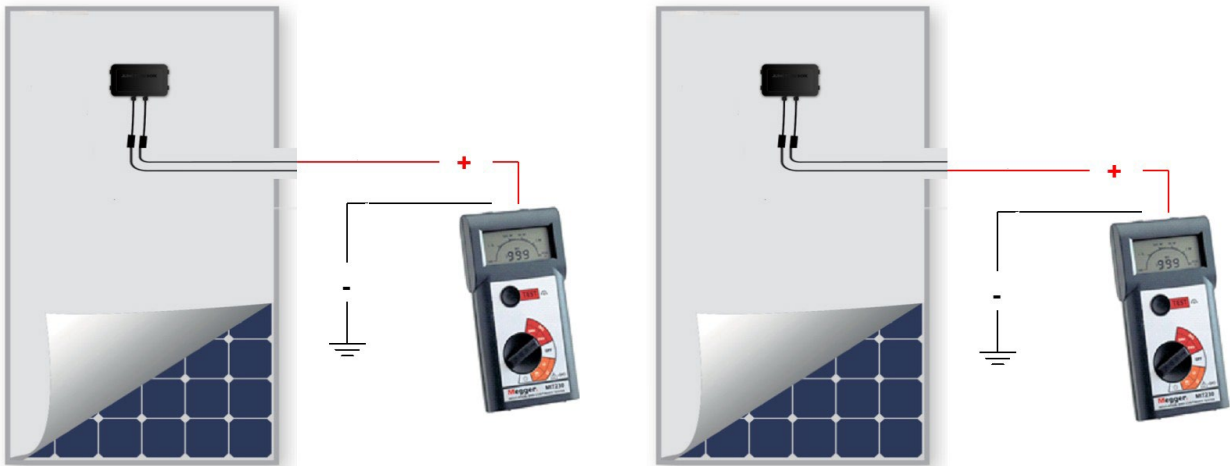

Figure 8: Connecting the Insulation Tester to the Module
- g. Disconnect the branch cable from the Power Optimizer and connect it to the module using one of the connection schemes shown below (see Figure 8 below).